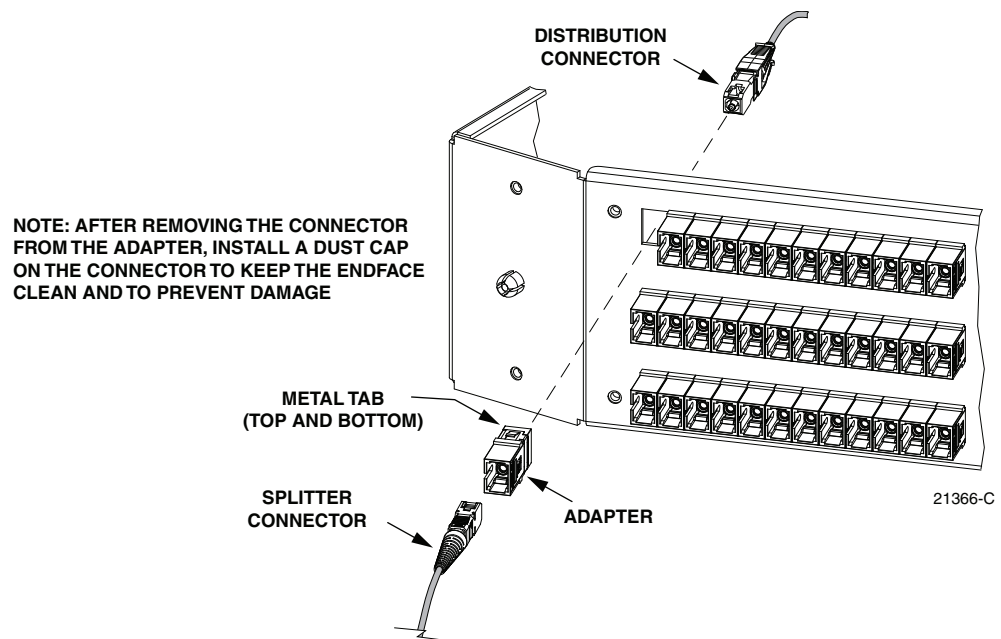

Figure 47. Adapter Removal and Replacement - Typical Distribution Panel
1. Disconnect the splitter connector from the front side of the broken adapter as shown in Figure 47 and install a dust cap on the connector.